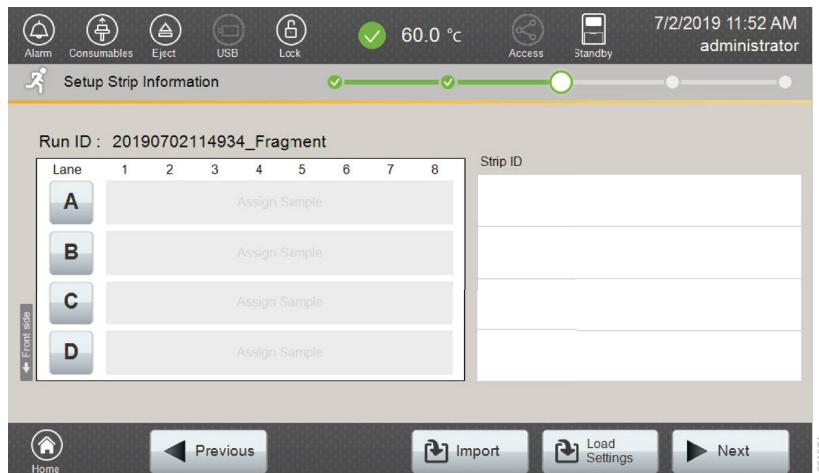
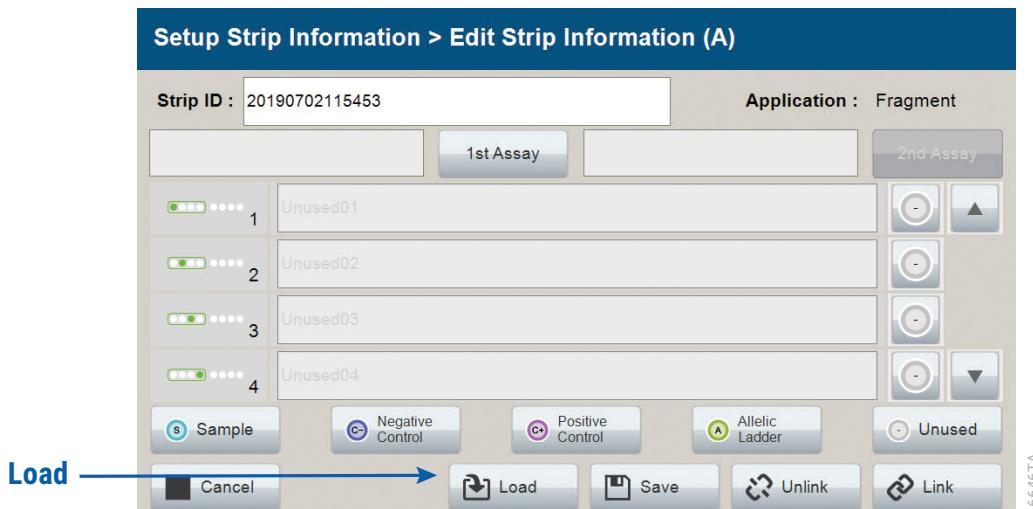
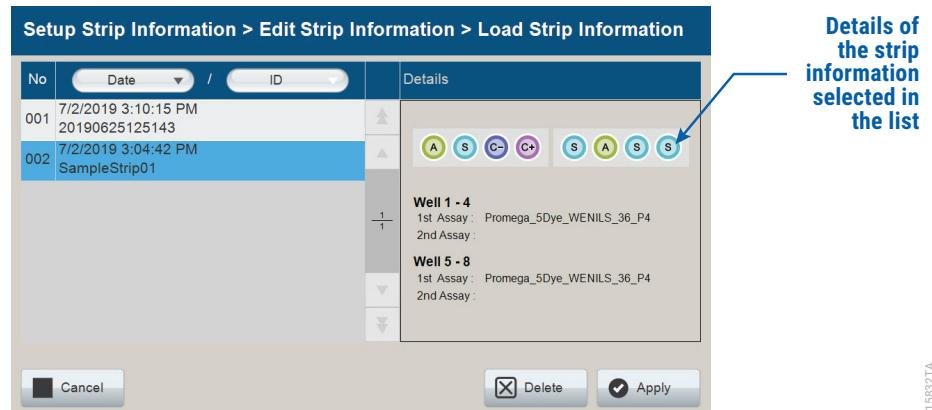

Figure 59. 'Setup Strip Information' screen.
Figure 73. 'Edit Strip Information' screen: Loading a previously saved Strip ID.
Figure 74. 'Load Strip Information' screen.
5. Select **Next** to access the 'Setup Strip Information' screen (Figure 59).
After selecting the desired lane (A, B, C or D) on the 'Setup Strip Information' screen (Figure 59), the 'Edit Strip Information' screen (Figure 60) displays fields for defining the Strip ID, run assay, sample name and sample type for that lane. Each well in the strip is represented along the left side of the screen. The first injection set of the strip (wells 1–4) is displayed on the screen. You can use the arrows on the right side of the screen to scroll to the second injection set (wells 5–8). Strip information can be manually entered into this screen as described below or loaded/imported from saved records (see Sections 5.3.3–5.3.4).
The Spectrum Compact Control Software allows reuse of individual strip information saved previously (see Step 8 of Section 5.3.1) to assign to a specific lane (A, B, C or D) on the 'Edit Strip Information' screen (Figure 73).
1. After selecting the desired lane (A, B, C or D) on the 'Setup Strip Information' screen (Figure 59), select **Load** at the bottom of the 'Edit Strip Information' screen (Figure 73) to open the 'Load Strip Information' screen (Figure 74).
- c. It is also possible to use the 'Load Strip Information' screen (Figure 74) to delete strips that are no longer required. Select the strip to be deleted from the list on the left side of the window, and then select **Delete**. A warning window asking "Are you sure you want to delete the strip?" will appear. Selecting **Yes** deletes the strip and takes you back to the 'Load Strip Information' screen. Selecting **No** closes the window and takes you back to the 'Load Strip Information' screen without deleting the strip.